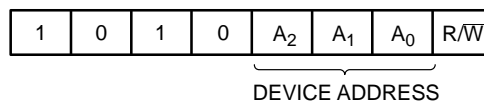

Figure 3. Slave Address Bits
The Master addresses a Slave by creating a START condition and then broadcasting an 8-bit Slave address. For the CAT24C32, the first four bits of the Slave address are set to 1010 (Ah); the next three bits, A2, A1 and A0, must match the logic state of the similarly named input pins. The R/W bit tells the Slave whether the Master intends to read (1) or write (0) data (Figure 3).